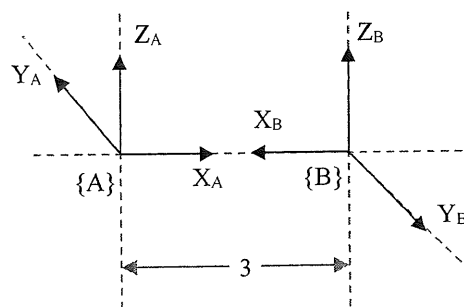

Figure 2
e) Two coordinate frames, A and B, are shown in Figure 2. Write the 4 x 4 homogeneous transformation matrices B^A which represents frame B relative to frame A. (10 marks)